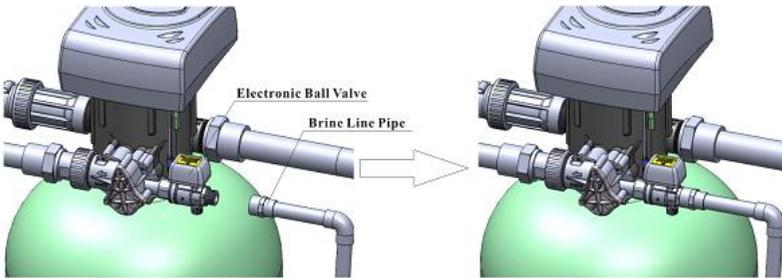

Figure 1-5
⑤ Connect brine tube
a. As Figure1-5 shows, use UPVC (DN20) to connect brine valve with brine line connector.